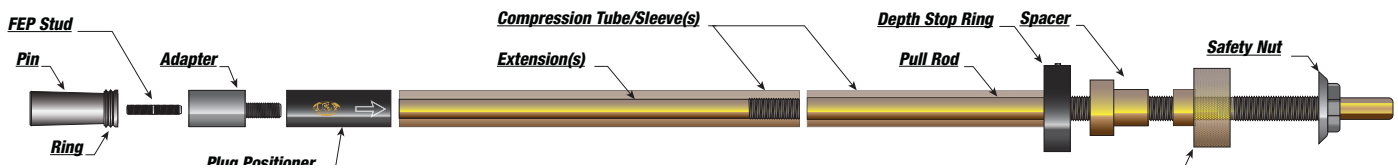

Figure 8
1. Remove the *Breakaway Stud* from the Snap-It Jr. Plug. **IT IS IMPORTANT TO NOT DAMAGE THE SURFACE OF THE PIN.** Dispose of the *Breakaway Stud* after it has been removed from the plug. An exploded view of the assembly is shown in *Figure 8*.